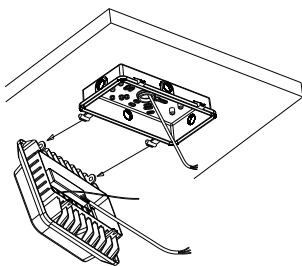

Figure 2-5
5. Slide the cover horizontally to attach it to the hinges. Fig. 2-5